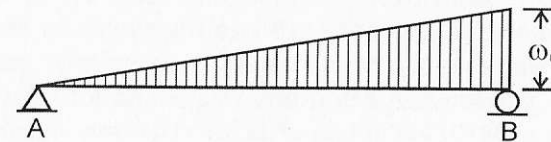

Figure 3
4. (a) Draw Shear Force and Bending Moment diagrams for the following simply supported beam of length l and carrying linearly varying load as shown in Fig.3.